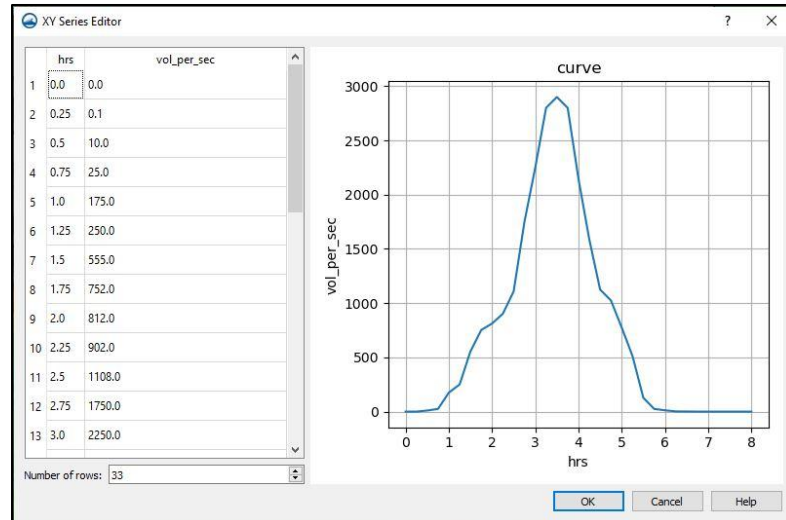

Figure 2 XY Series Editor dialog once values are entered
11. Copy the numerical values from the *Flow (cms)* column in the "InflowHydrograph.xls" file to the *vol_per_sec* column in the *XY Series Editor* dialog. The graph should appear as in Figure 2.